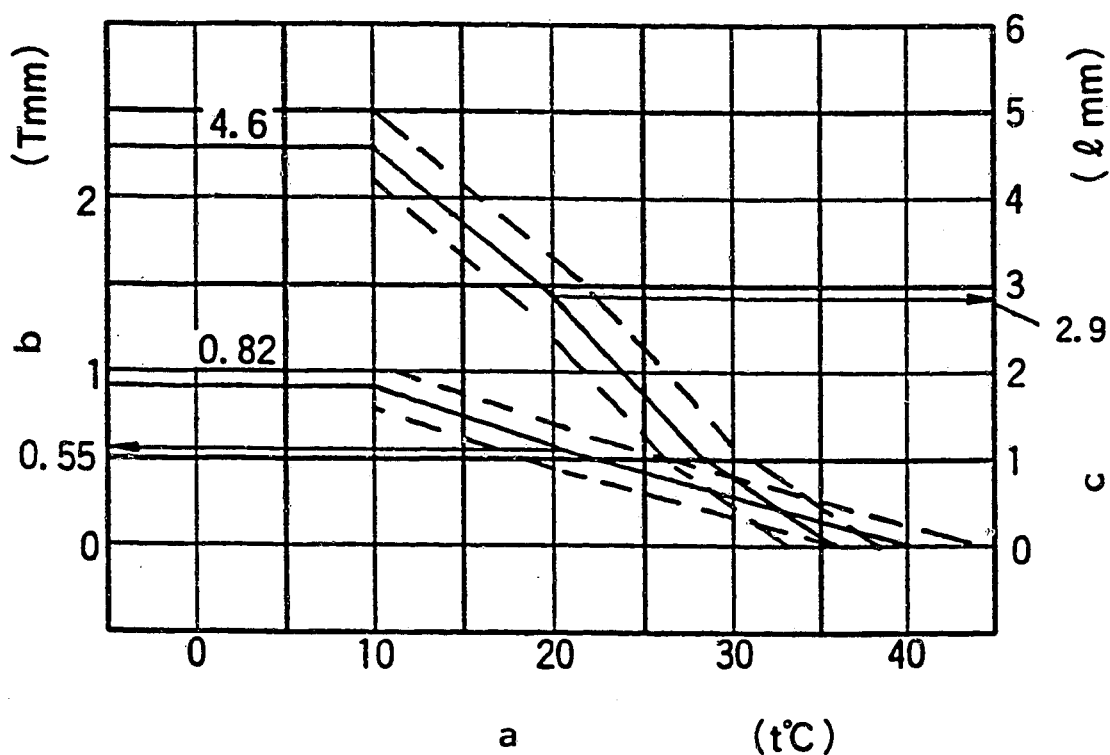

Figure 21
- 1) Calculate the timer stroke from Fig. 21 (diagram) according to the atmospheric temperature at the time of adjustment.
- 2) Adjust using the timer stroke adjusting screw (1) so that the timer stroke is as calculated in Step 1).
- 1) Calculate the block gauge dimension  $l \pm 0.05$  mm from (Fig. 21) according to the atmospheric temperature at the time of adjustment.